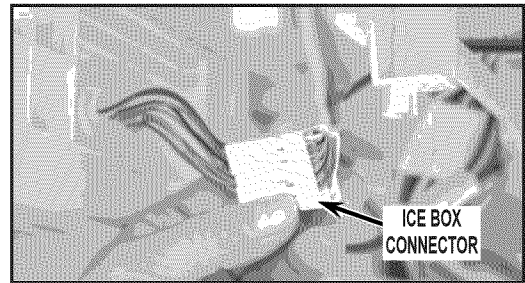

FIGURE 26
33. Connect fascia heater to jumper harness. Reconnect ice box connector (12 pin 14VDC ice box connector that was disconnected in Step 12) and remaining connectors. Make sure wire colors and wire sizes match and tuck wires away from the water reservoir cover. See *Figure 26*.